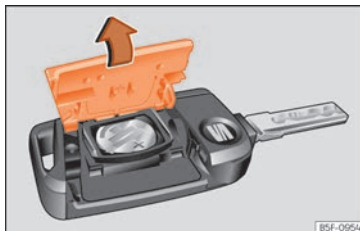

Fig.73 Vehicle key: opening the battery compartment cover.
- Remove the cover from the back of the vehicle key »» Fig. 73 in the direction of the arrow »» ❶.
- Fit the cover as shown »» Fig. 73, pressing it onto the vehicle key casing in the opposite direction to that shown by the arrow until it clicks into place.